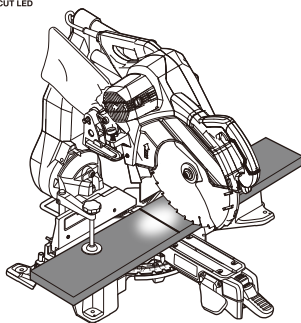

Fig. 17
7. LED lighting system (Fig. 17) [XACT CUT LED™]